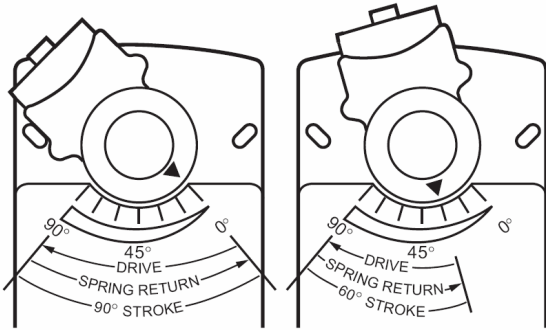

Fig. 4. Stroke reduction.
3. Rotate the coupling to the desired fail-safe position, aligning it based on the stroke labeling. See Fig. 4.
EXAMPLE: Setting shaft coupling to an approximate fail-safe position of 35 degrees (as indicated on the housing) limits stroke to 60 degrees. (See Fig. 4)